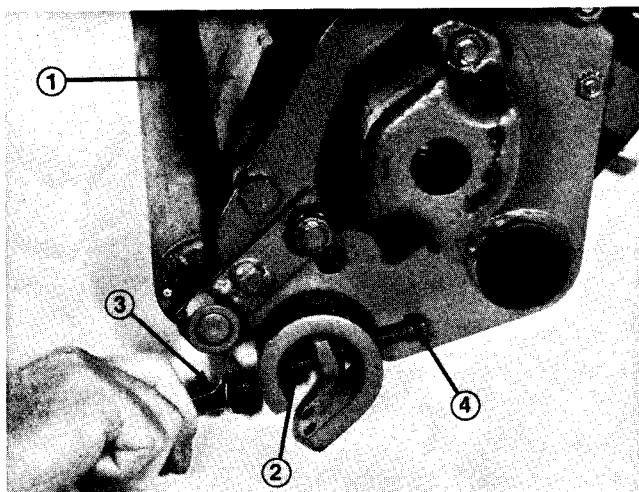
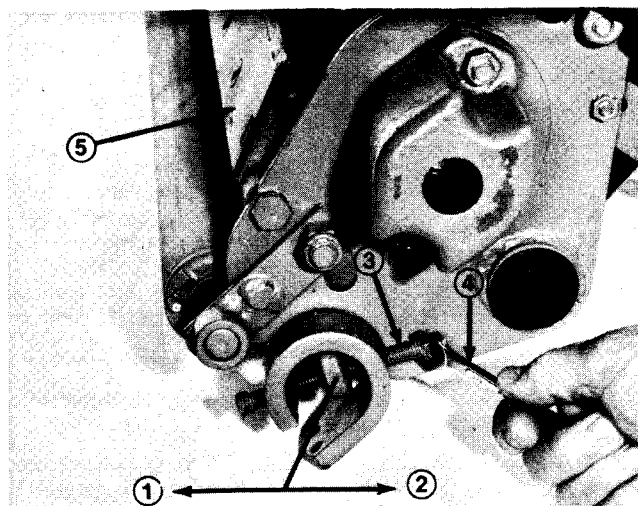

Figure 8
Figure 9
1. To move bedbar closer to reel blades, loosen bottom screw on each side of cutting unit (Fig. 8), then tighten top adjustment screw on each side of cutting unit (Fig. 9). To move bedknife away from reel blades, loosen top screw on each side of cutting unit (Fig. 8), then tighten bottom adjustment screw on each side of cutting unit (Fig. 9).
2. After adjusting bedknife to reel, make sure that both the top and the bottom adjustment screws are secured at both ends of cutting unit (Fig. 8, 9).